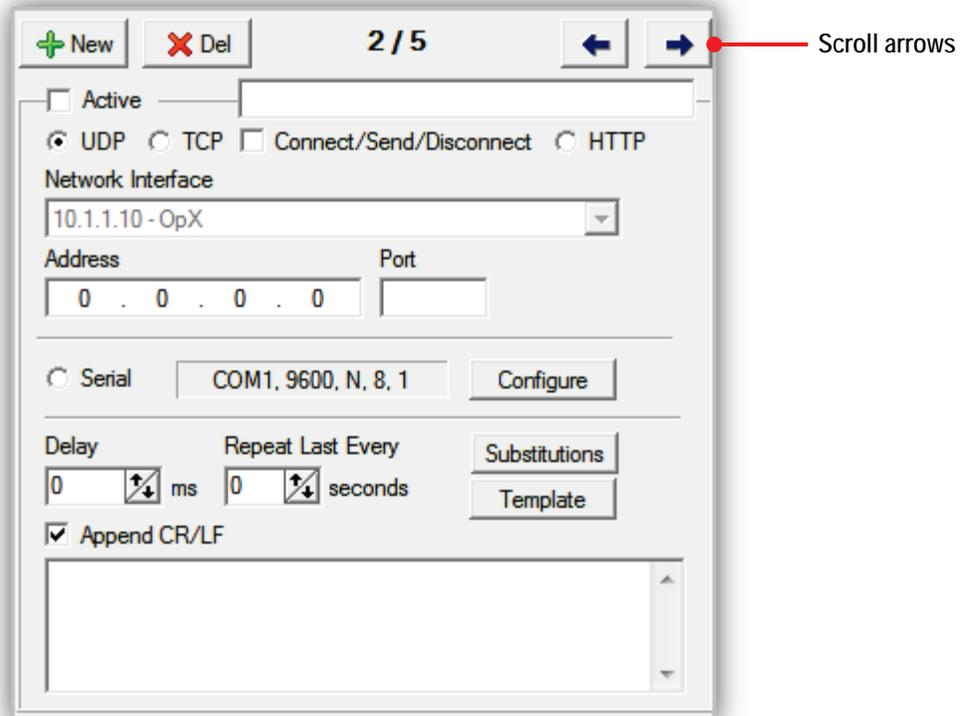

Figure 16-6. Scroll Arrows
2. On the right side of the OpX Repeater window, use the scroll arrows to find the data repeater you want to edit (see Figure 16-6). The field to the left of the arrows shows the number for the current data repeater and the total number of data repeaters that have been set up (for example, **2/5** means the settings for data repeater number 2 is displayed out of 5 data repeaters that have been set up).
2. On the right side of the OpX Repeater window, use the scroll arrows to find the data repeater you want to delete (see Figure 16-6).